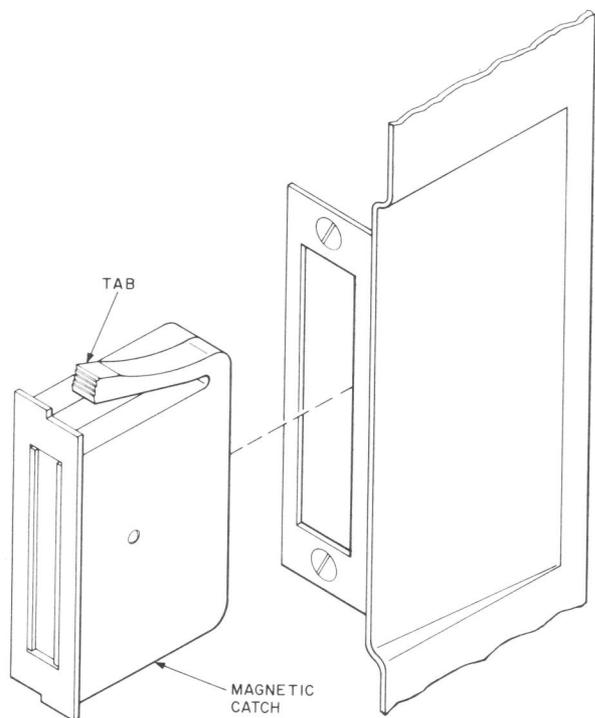

Fig. 4—Partial View of 526A Housing Assembly, Installation of Magnetic Catch
- (2) Fasten bracket to narrow or round surface using the 3/8-inch holes centered at top and bottom of bracket.
- (3) Bolts and washers for mounting the telephone set are furnished with 29D bracket.
- (4) With the outer and inner doors open, mount the 525-type telephone set on the 29D bracket.
- (5) Mount the 526A housing on the 29D bracket before the telephone set base is installed in the housing.
- (6) After installing 526A housing assembly, install magnetic catch as shown in Fig. 4. Depress until flush, and both tabs are locked in place.